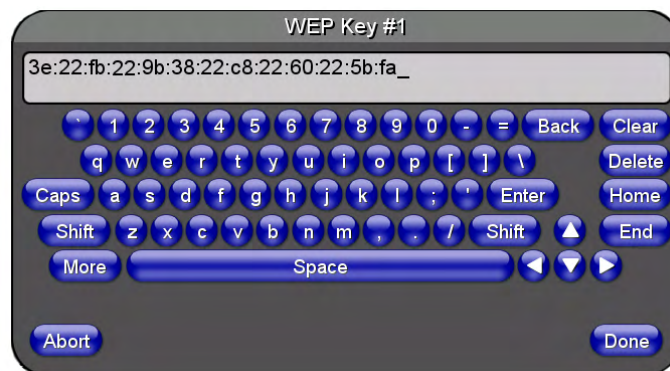

FIG. 28 WEP Key # Keyboard
- This series of hex digits (26 hex digits for a 128-bit encryption key) should be entered as the Current Key into both the WAP and onto other communicating Modero panels by using the *WEP Key* dialog (FIG. 28).